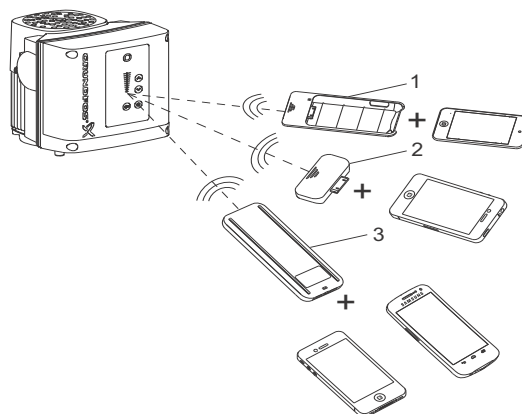

Fig. 14 Grundfos GO Remote communicating with the pump via radio or infrared light
The Grundfos GO Remote offers three different mobile interfaces (MI). See fig. 14.